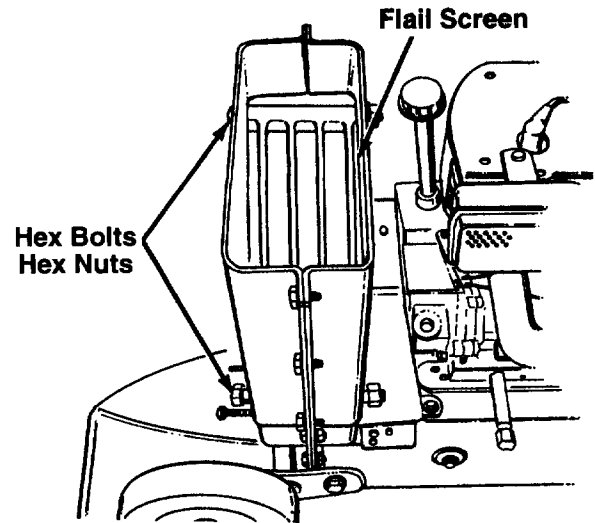

FIGURE 11.
4. Remove the two hex bolts and hex nuts which extend through the housing. Lift the flail screen from inside the housing. See figure 11.
**NOTE:** Be certain to reassemble the flail screen with the curved side down as shown in figure 11.
11. Remove the two hex bolts and hex lock nuts which extend through the housing. Lift the flail screen out of the housing. See figure 11.